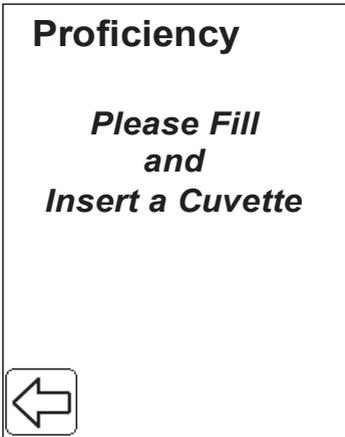

FIGURE 8-27
f) Press the Confirm button (4) to return to *FIGURE 8-27*.